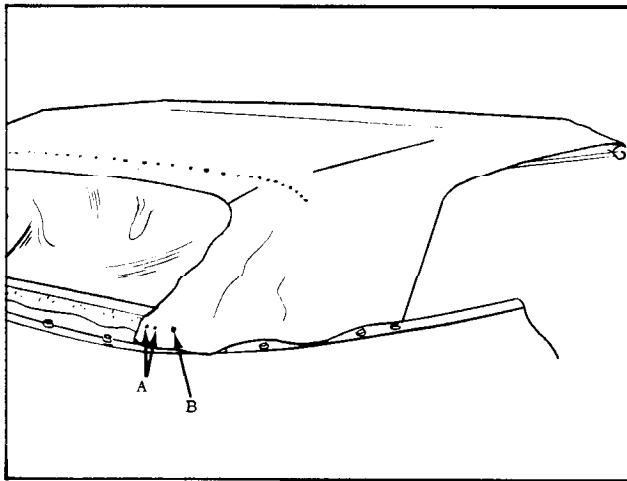

Fig. 15-103 Tacking Top Material
- 37. Using previously marked lines (ends of trim stick) as locating reference, tack top material to rear and rear quarter trim sticks. "A" in Fig. 15-103 shows top material installed to rear trim stick at inboard edge.